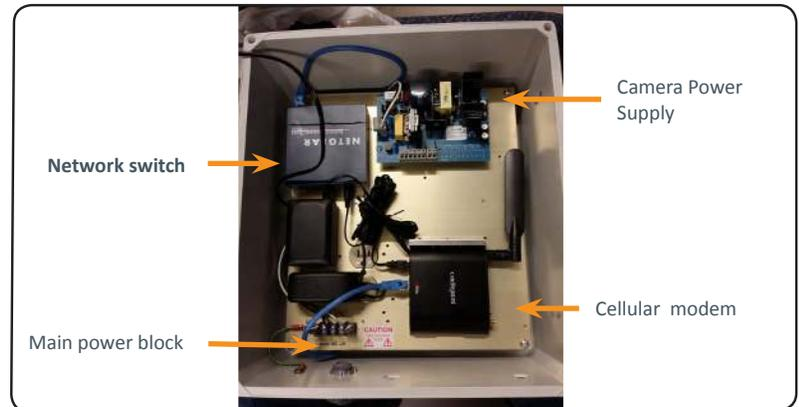

Fig. 3 - Mobile Solution (interior)
2. Utilize the conduit connector to run electrical power through the left most hole to the enclosure’s main power block (Fig. 3) and connect the enclosure to ground.